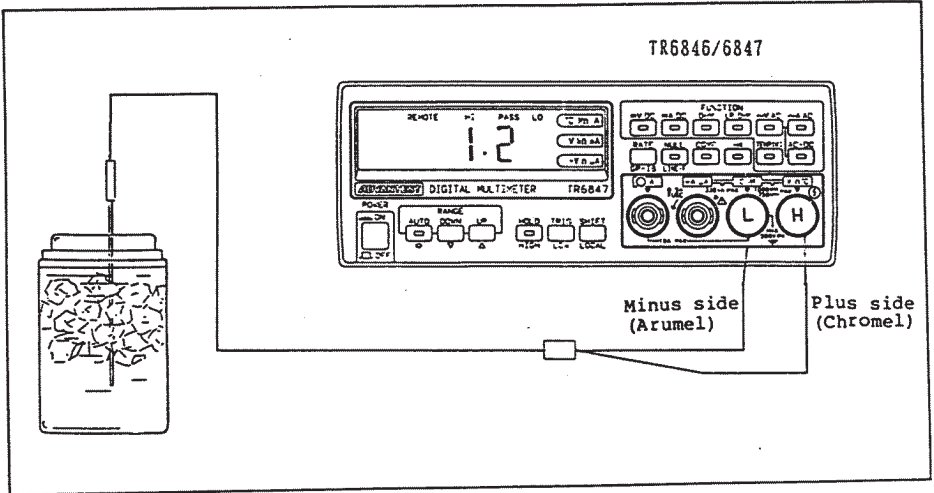

Figure 8-2 Zero Point Calibration in Temperature Measurement
- ① Connect the K(CA) thermocouple to the input terminal.
- ② Press the $\begin{matrix} \text{TEMP} \\ \square \end{matrix}$ key to measure the temperature of the 0°C ice unit. (Figure 8-2)